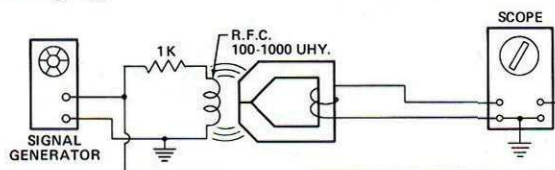

Fig. 8
A.C. Phase Check. It is possible to verify the relative phasing of the coils on a multi-channel head by exciting the head pole faces with coil and observing the Lissajous pattern from the exciting and picked up voltages as displayed on an oscilloscope. A reversed coil will flip the pattern 90 degrees. This method does not work well with double-gap erase heads or for specifying absolute phasing between various heads (see Fig. 8).